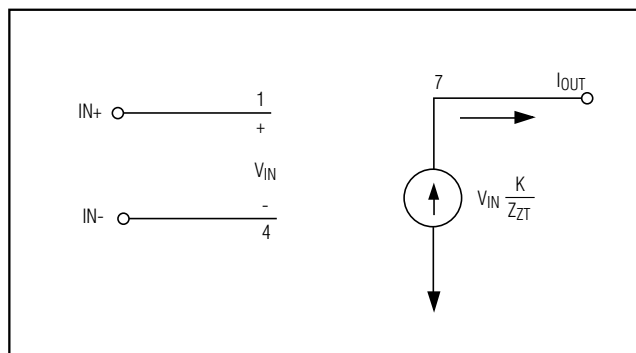

Figure 1. Operational Mode
The output is essentially a voltage-controlled current source as shown in Figure 1. The MAX9547 output is a current proportional to the differential input voltage, and inversely proportional to the impedance of the user-selected transconductance network, Z_{TT}. The current output provides inherent short-circuit protection for the output terminal. A differential input voltage applied to the input terminals causes current to flow in the transconductance element (Z_{TT}), which is equal to V_{IN} / Z_{TT}. This current in the transconductance element is multiplied by the preset current gain (K) and appears on the output terminal as a current equal to (K) × (V_{IN} / Z_{TT}). This current flows through the load impedance to produce an output voltage according to the following equation: